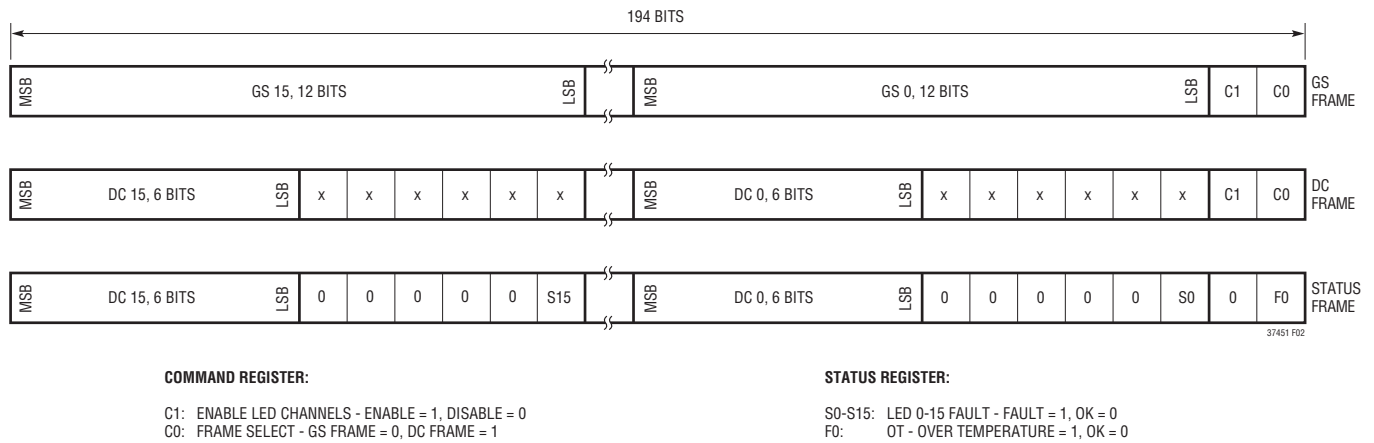

Figure 2. Serial Data Frame Format
Figure 2 shows two serial data input SDI frames (GS frame and DC frame) and one serial data output SDO frame (status frame). All the frames have the same 194-bit in length and are transmitted with the MSB first and the LSB last. The SDI frames are sent with the SCKI signal and the SDO frame is received with the SCKO signal. The C0 bit (frame select) determines any SDI frame to be either a GS frame (C0 = 0) or a DC frame (C0 = 1), and the C1 bit (EN) enables (C1 = 1) or disables (C1 = 0) all the LED channels. The status frame reads back the T_{SET} pin resistor-programmable over-temperature flag and individual open/short LED fault flags, as well as the individual 6-bit DC setting.